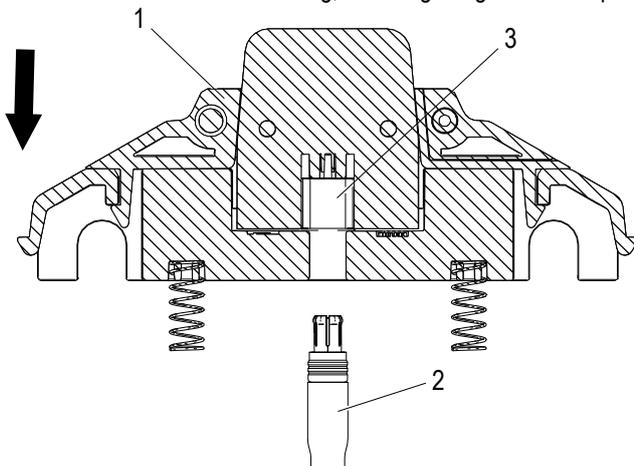

Fig. 166: Collector housing (1) is mounted on data cable (2)
→ Connect the collector housing, including the glued-in compression spring (1), to the data cable (2) (see Fig. 166).